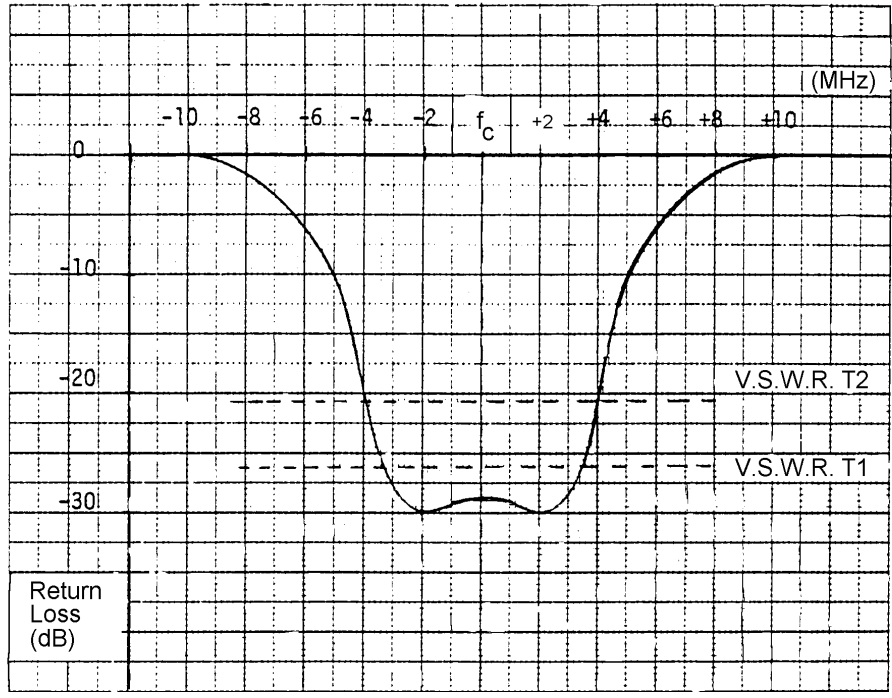

Figure 2-43 Typical Input VSWR
- m. Adjust each of the tuning screws as necessary, and the input and output couplings to give the specified input match conditions. A typical result is shown in Figure 2-43.